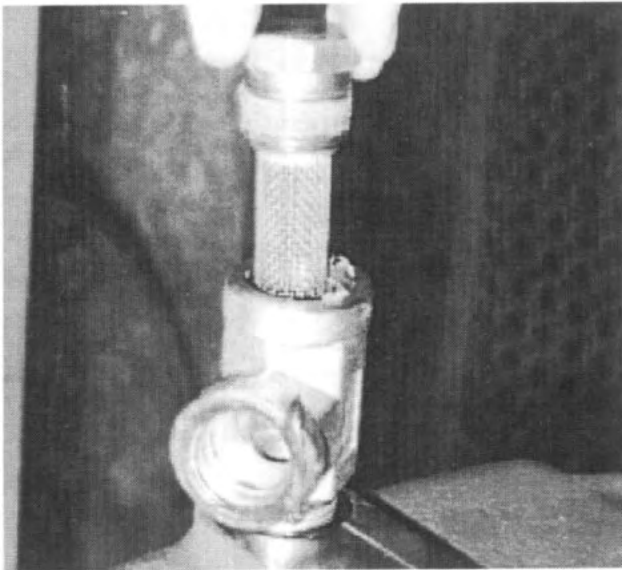

Fig. 106
43. If so equipped, properly route and connect all lubrication lines. Install the oil strainer. See Fig. 106